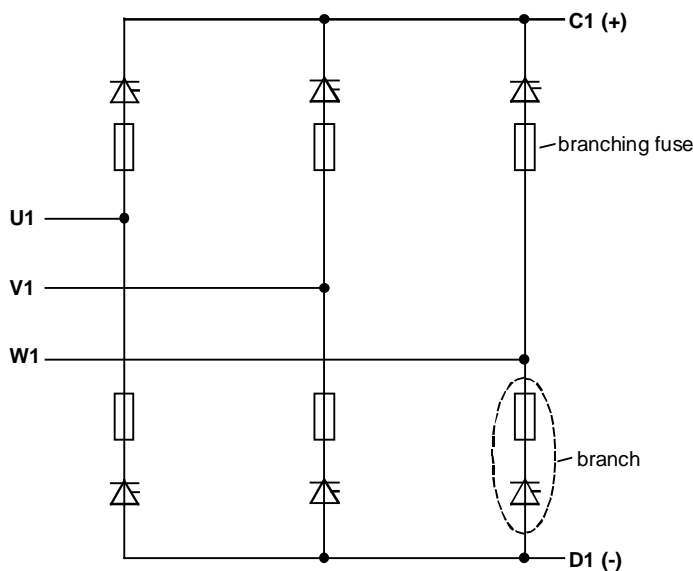

Figure 7 Basic B6-bridge with branching fuses
1. Find the defective branches by performing an OHM test (both polarities) between U1, V1, W1 and C1, D1 (see figure 7)